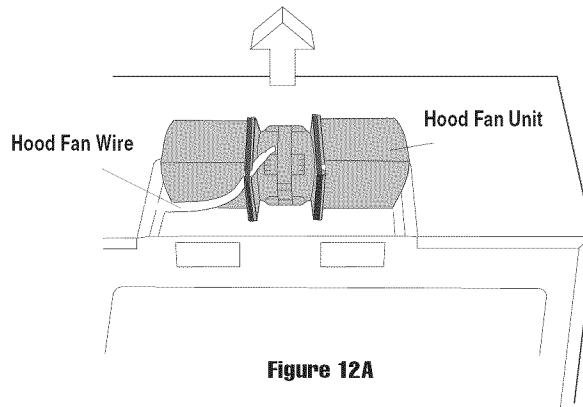

Figure 12A
2. Lift Hood Fan Unit carefully and slip wires out of cavity. See Figure 12A. **CAUTION: Do not pull or stretch Hood Fan Wire.**